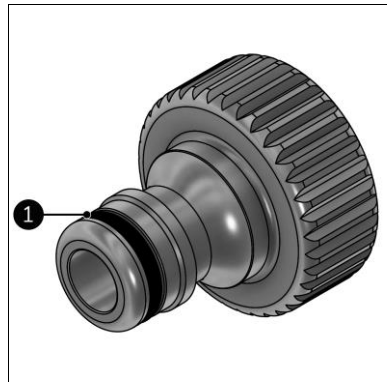

Figure 22
5. Apply Vaseline to the O-ring of the garden hose coupling (Figure 22, pos. 1).